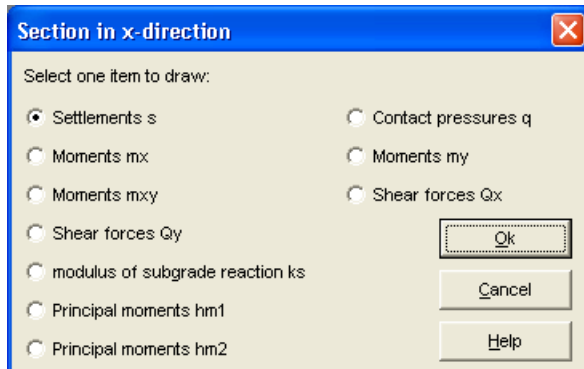

Figure 1-39 "Section in x -direction" option box
- Choose "Section in x -direction" command from "Sections" menu. The following option box in Figure 1-39 appears